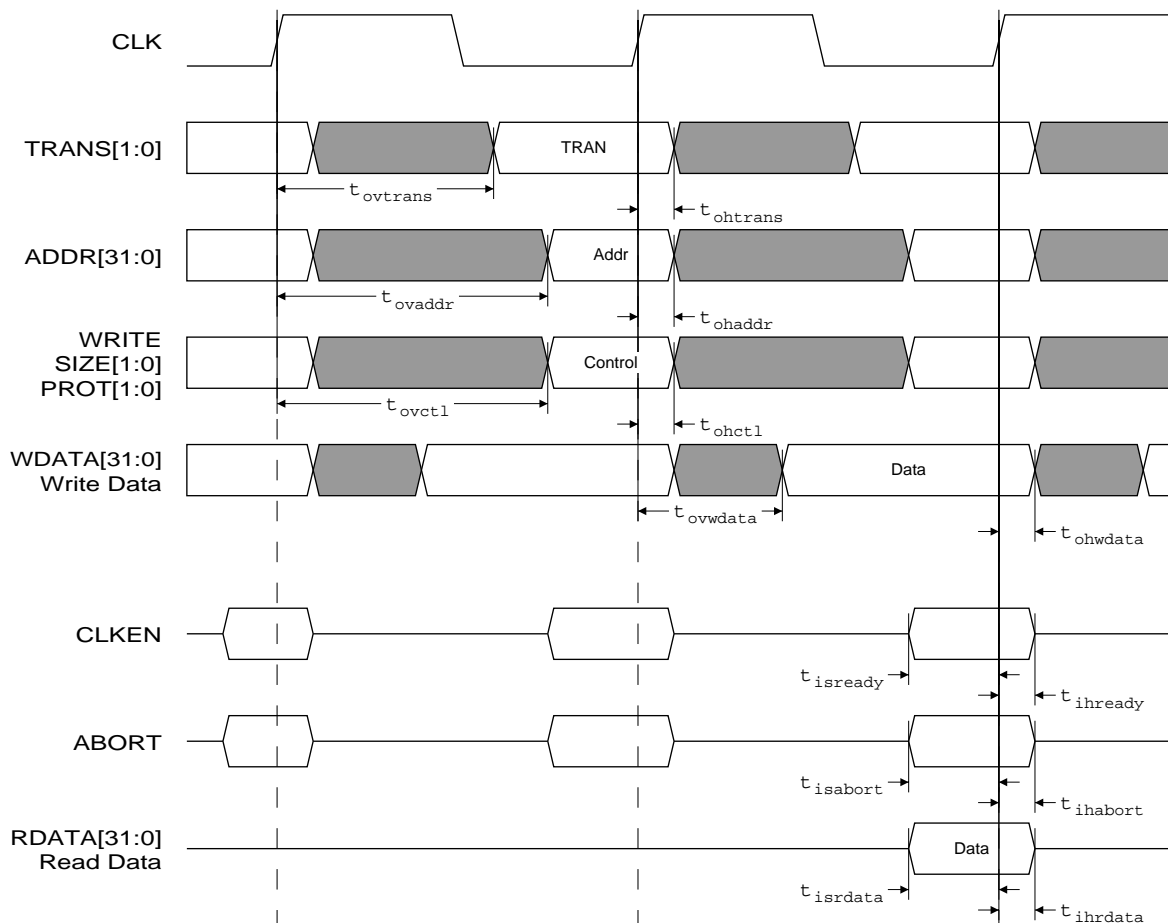

Figure 7-1 Timing parameters
- *Figure 7-1 Timing parameters*